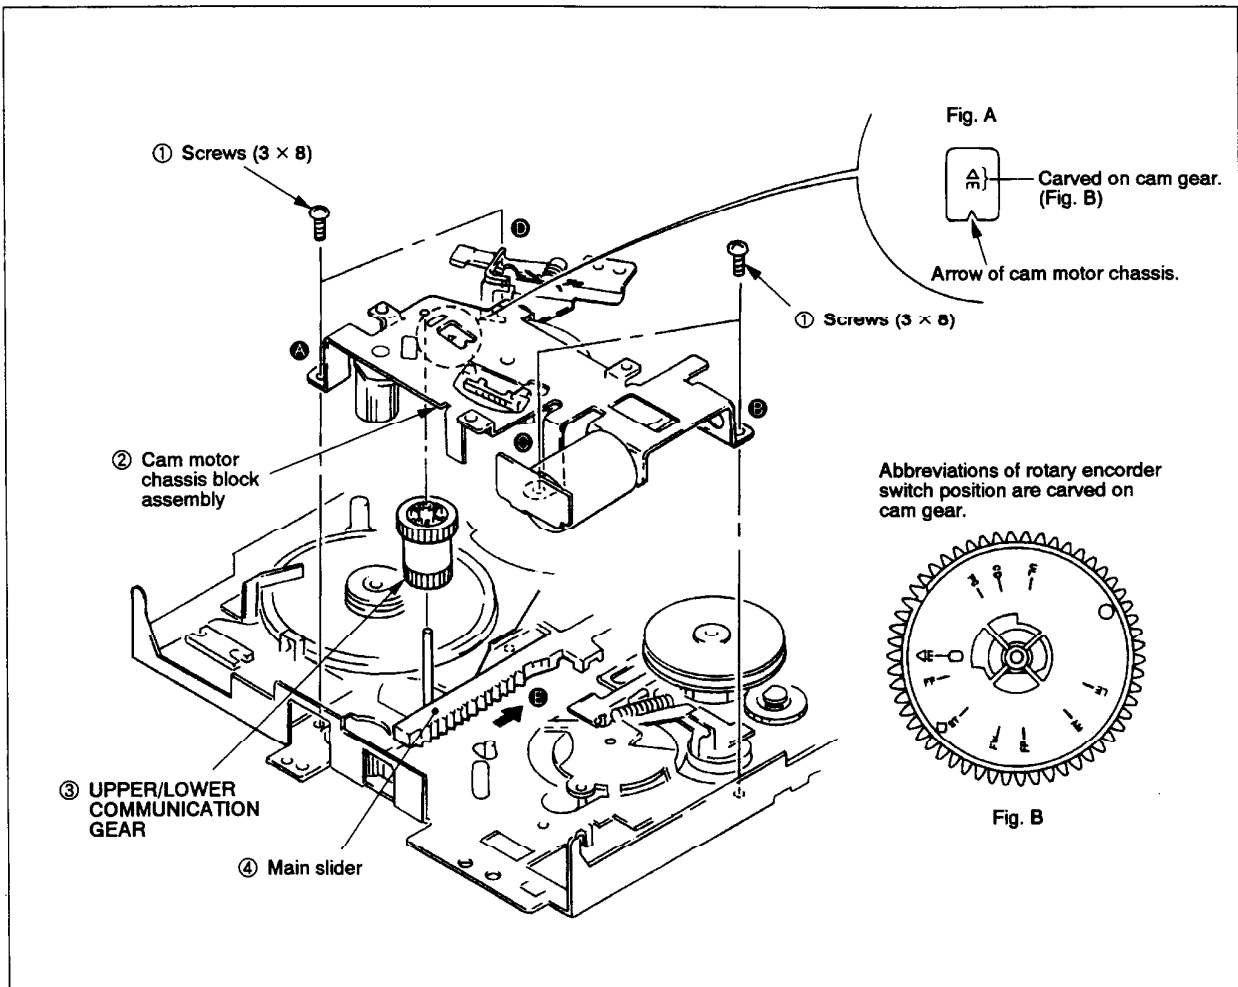

Fig. 3-18
3-16. CAM MOTOR CHASSIS BLOCK ASSEMBLY, UPPER/LOWER COMMUNICATION GEAR (Fig. 3-18)
- 1) Set the mechanism to the loading-end condition referring to 1-1. (Cam gear indicates "LE". (Refer to Fig. A and B of Fig. 3-18.))
- 2) Remove tension spring ① in the order Ⓐ to Ⓔ.
- 3) Remove stopper washer (2) ② to pull out TG1 assembly ③.